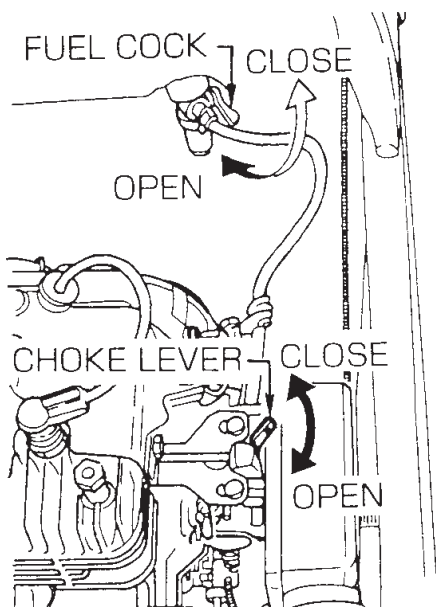
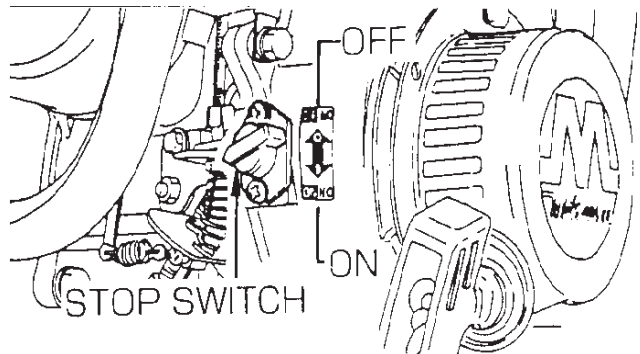
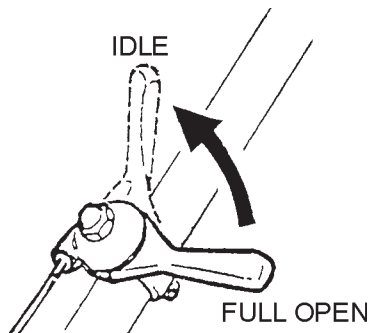

Figure 5. Fuel Cock and Choke Lever
Figure 6. Engine On/Off Switch
Figure 9. Throttle Lever
1. Open the fuel shut-off valve by moving the **fuel cock** lever to the **open** position (Figure 5).
2. Set the engine ON/OFF switch (Figure 6) to the "ON" position (start).
3. Close the choke lever (Figure 5) and move the throttle lever (Figure 9) to the "Full Open" position. Turning the choke lever 90 degrees clockwise closes the choke. In cold weather, start the unit with choke fully closed. In warm weather or when the engine is warm, the unit can be started with choke halfway or completely open.
5. If engine fails to start, move the choke lever (Figure 5) to the half open position to avoid flooding.
1. To start the rammer tamping action, move the throttle lever (Figure 9) quickly from **IDLE** (close) to the **FULL OPEN** position. **DO NOT** move the throttle lever slowly as this may cause damage to the clutch or spring.
1. Move throttle lever quickly from the **FULL OPEN** to **IDLE** position (Figure 9) and run the engine for three minutes at low speed. After the engine **cools**, turn the engine *start/stop* switch to the "**OFF**" position (Figure 6) until engine comes to a complete stop.
2. Close the fuel shut-off valve by moving the fuel cock lever to the **CLOSED** position. See Figure 5
1. Move the throttle lever quickly to the **IDLE** position, and turn the engine ON/OFF switch (Figure 6) to the **STOP** position.